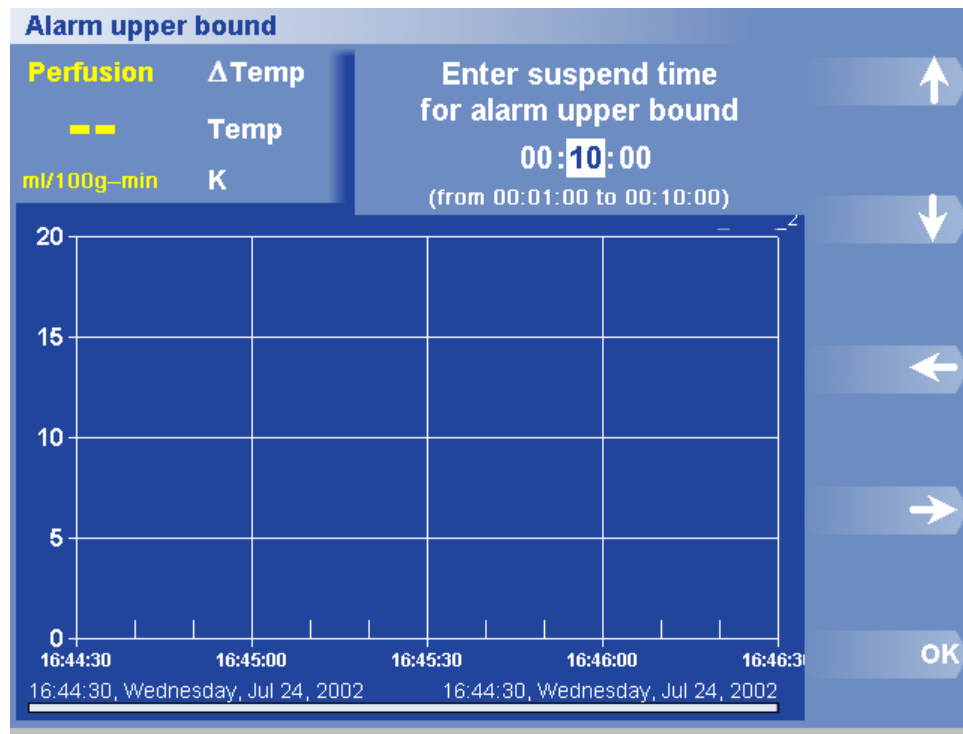

Figure 28. Alarm Upper Bound Suspend Time Dialog Box and Menu
2. Press Suspend Time. The Suspend Time dialog box appears (Figure 28).